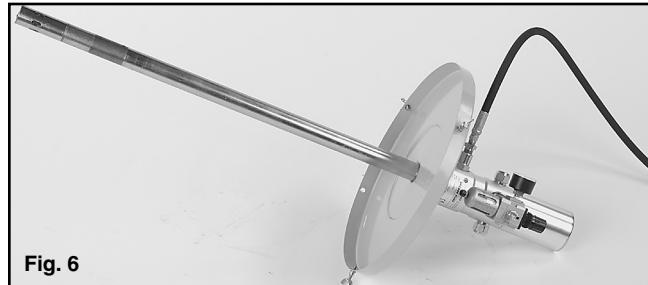

Fig. 6
1. Loosen the three wing nuts on the drum cover and remove the pump and cover as an assembly and place on a work table or floor, fig. 6, with the pump head down so as not to contaminate the pump suction shaft.